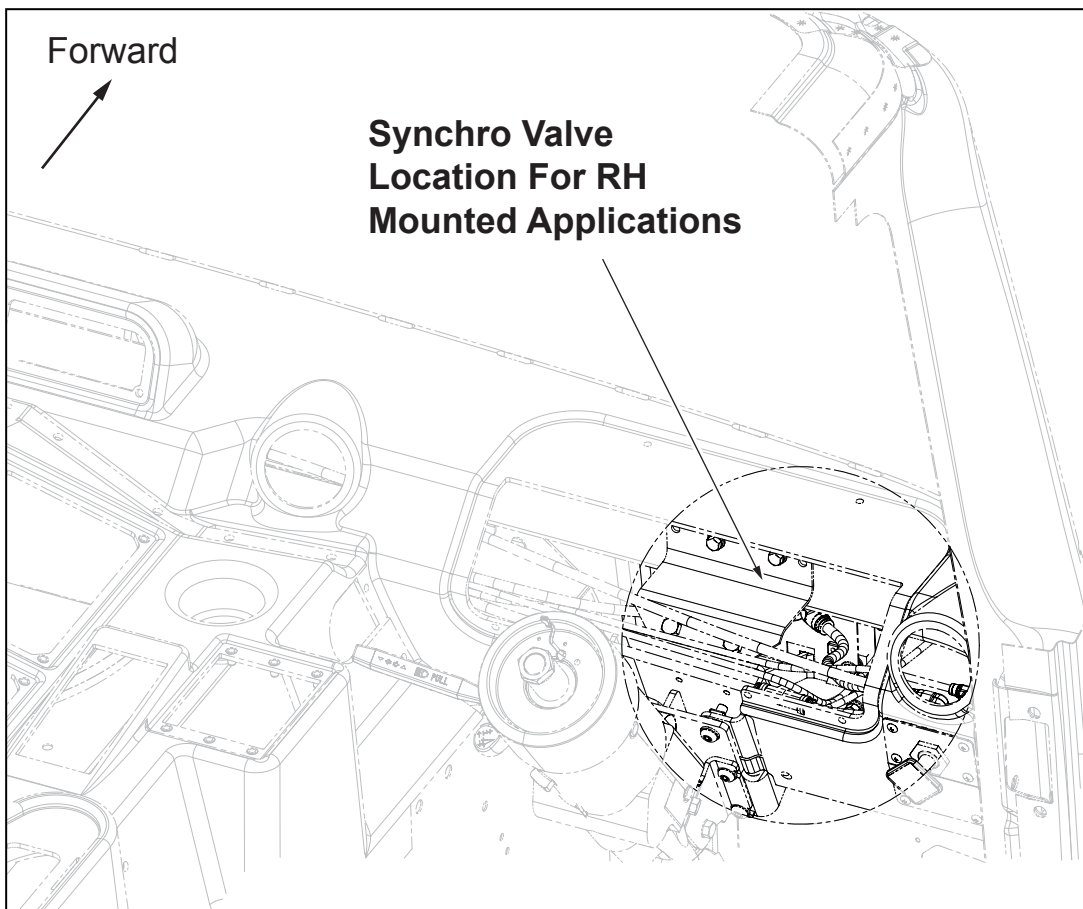

Figure 1
2. Locate the synchro valve (see Figure 1).